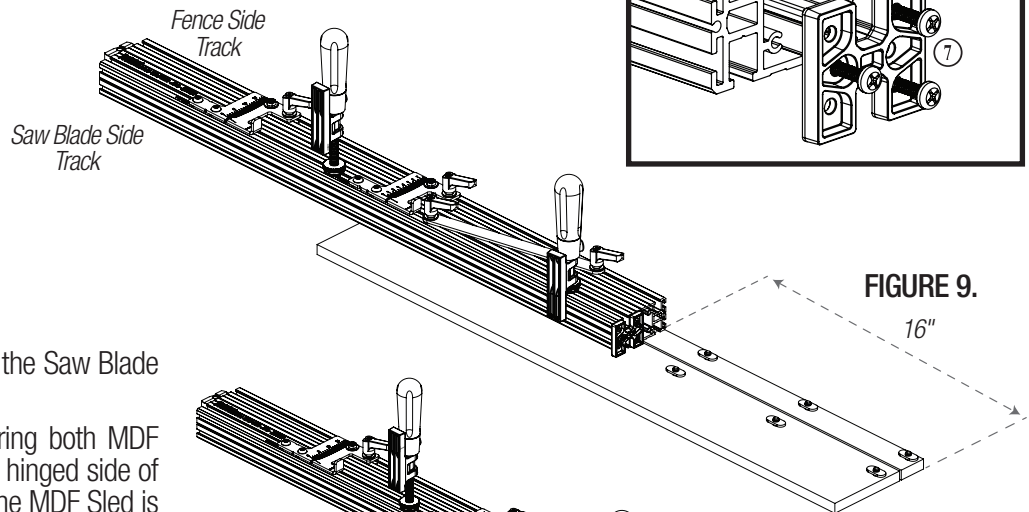

FIGURE 9.
2. Loosen (do not remove) the Screws securing both MDF Sleds. Slide the MDF Sleds out away from the hinged side of the Precision Taper Jig so that roughly 16" of the MDF Sled is exposed. **FIGURE 9.**
3. Locate the 16" Extension Tracks ②. One end of the Extension Track will have 3 Screws installed where the Push Plate is to be installed. This Extension Track will attach to the left side of the Precision Taper Jig.